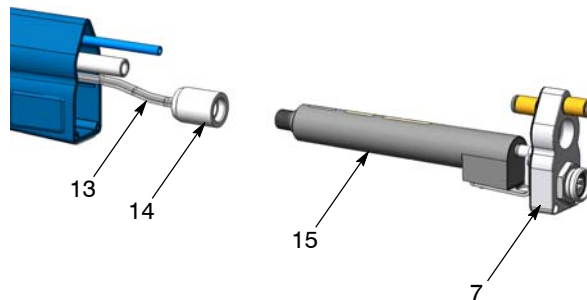

Figure 6 *Removing the Multiplier from the Housing and Disconnecting Electrode Cable*
8. See Figure 6. Pull the heat sink (7), with multiplier (15) attached, out of the housing. Continue pulling until you can grasp the multiplier nut (14).
9. Unscrew the multiplier nut (14) and disconnect the electrode cable (13) from the multiplier (15).